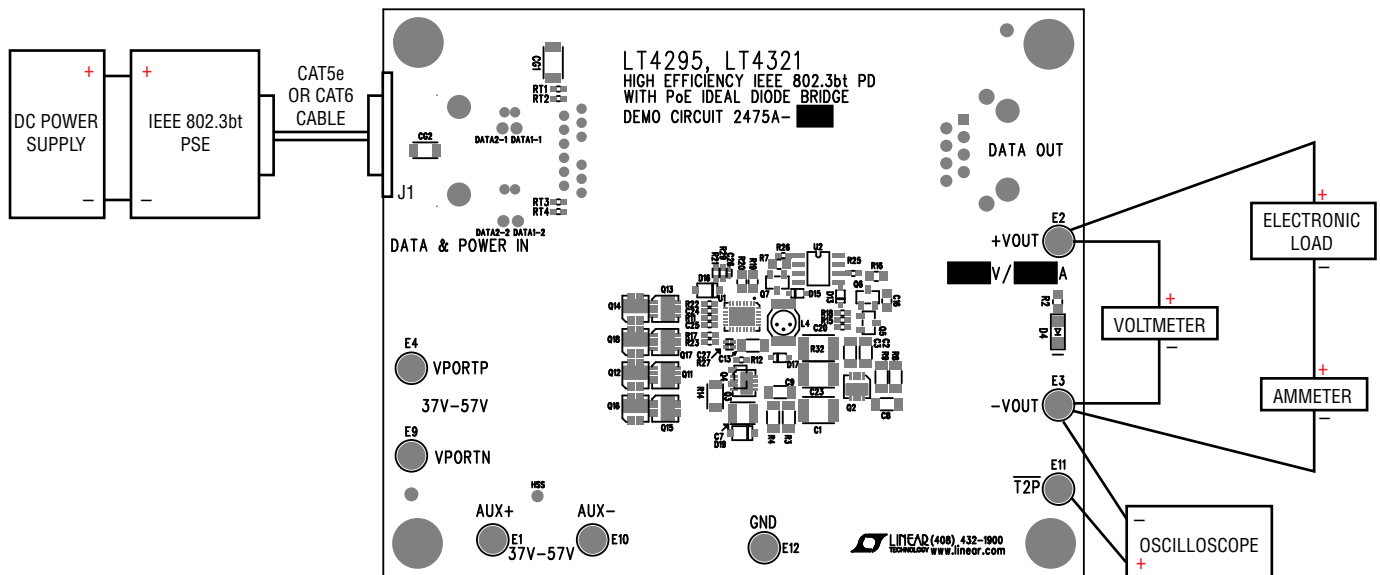

Figure 8. Setup Diagram for PoE Input
2. Place and connect test equipment (voltmeter, ammeter, oscilloscope, and electronic load) as shown in Figure 8.
7. Verify $\overline{T2P}$ response with an oscilloscope as shown in Figure 8. The $\overline{T2P}$ response to the type of PSE connected to the DC2475A-A is provided in Table 1.